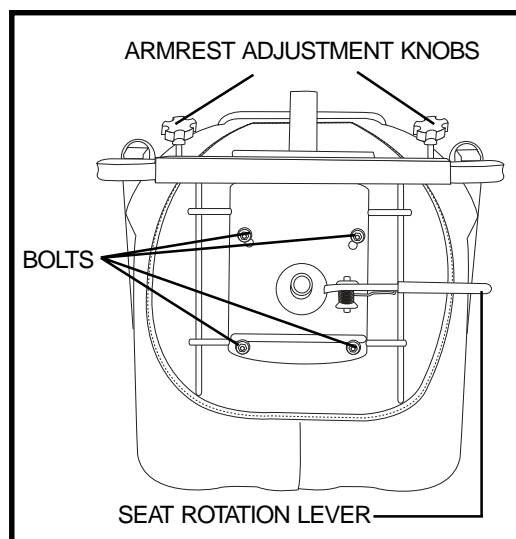

Figure 11. Seat Adjustments
1. Pull up on the seat rotation lever to disengage the seat. See figure 11.
1. Loosen the armrest adjustment knobs at the back of the seat frame. See figure 11.
2. Remove the four bolts that fasten the seat to the seat platform. See figure 11.